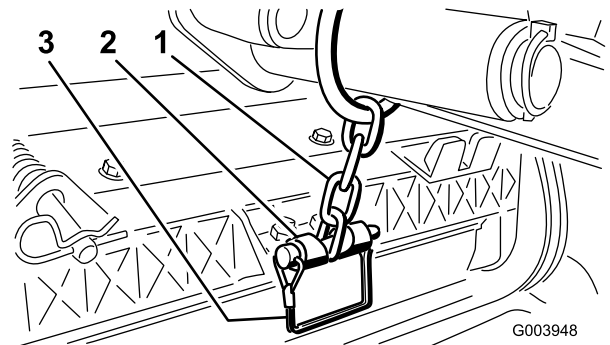

Figure 12
12. Secure the lift-arm chain to the chain bracket with the snapper pin (Figure 12).